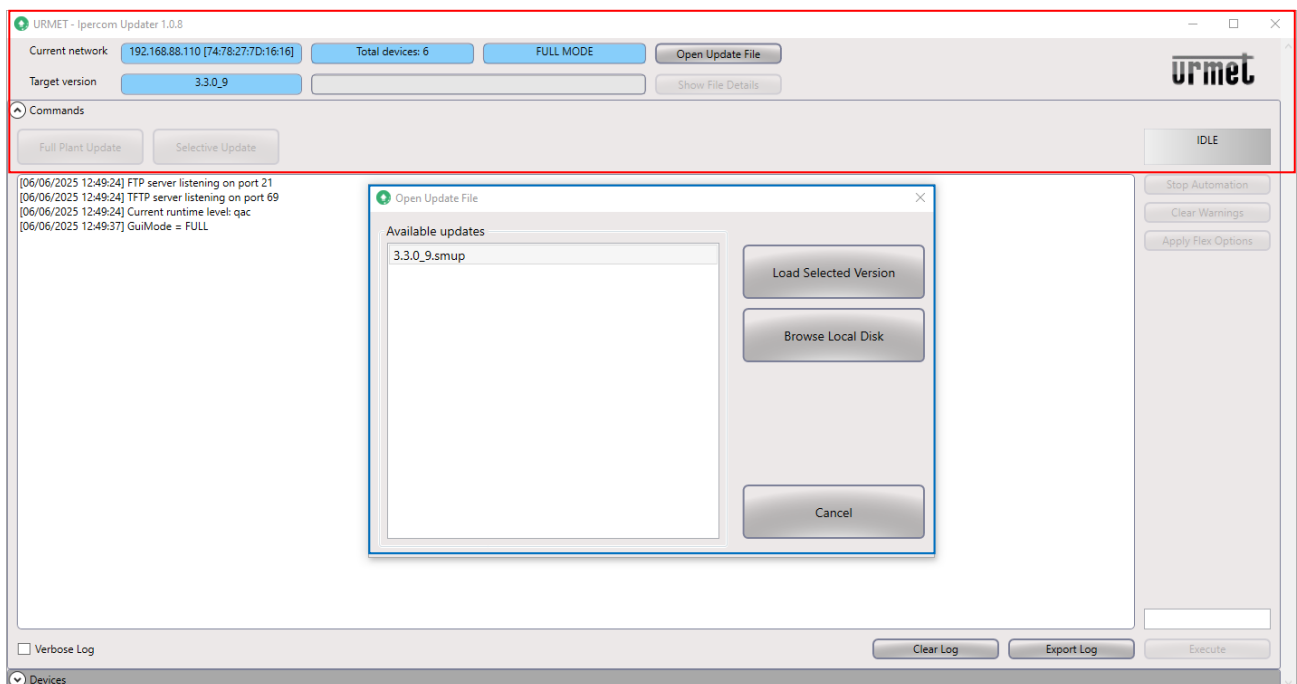

Figure 45: graphic user interface for updating the system
The following information is shown in the upper part of Figure 45 (red box):
The commands for updating the system are displayed in Figure 45 in the blue box and are explained in detail below:
The steps to follow to update the system to the IPerCom 3.3.0 version are now reported below. For all other methods of updating a system and for all the functions relating to the screen shown in Figure 45, please refer to the following paragraphs.
Regardless of the IPerCom version selected in the launcher, Figure 45 always automatically displays the officially released update file.
**If you select an update file other than the officially released update file, using the “Browse Local Disk” button, the update will not be allowed. The “Browse Local Disk” button should only be used to update the system with custom update files of the same IPerCom version previously selected in Figure 45 (for further detail see APPENDIX A1: Custom video door phones).**